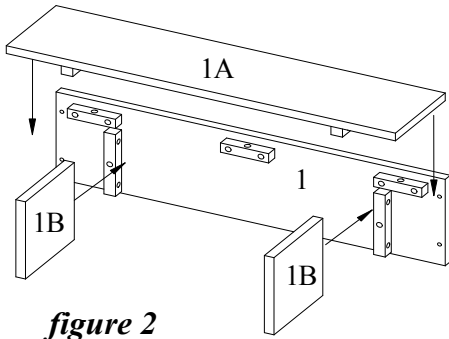

figure 2
Step 2 Firebox Support Assembly figure 2
Locate Firebox Face (1) and attach the two side supports (1B) to the mounting blocks using four wood screws as shown in figure 2.